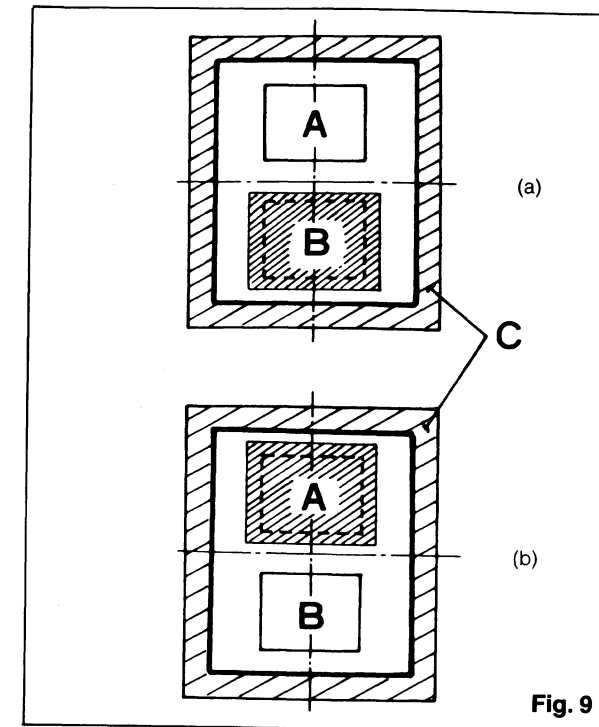

Fig. 9
- ① Determine the positions where the copy should be set at the first exposure and the second exposure in advance.
- ② Place the copy at the correct position for the first exposure. (position A in Fig. 9-(a))
- ③ Place a piece of black paper at the correct position for the second exposure. (position B in Fig. 9-(a))
- ④ Turn the switch to MULTI.
- ⑤ Set exposure time.
- ⑥ Push the START button for the first exposure.
- ⑦ Replace the copy and the black paper like Fig. 9-(b) after the first exposure.
- ⑧ Turn the switch to NORMAL.
- ⑨ Push the START button for the second exposure.